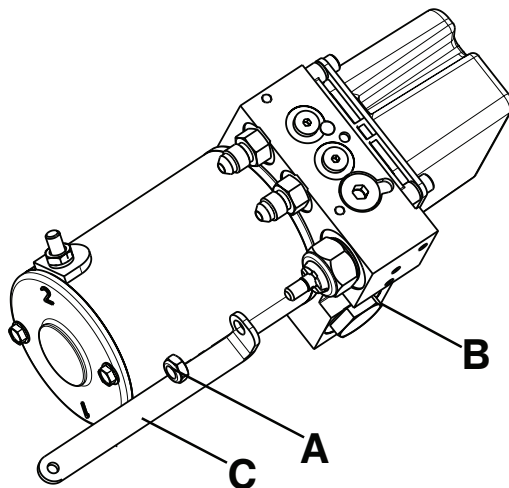

Figure 36 – Non-locking manual valve
5. Using a 7/16" deep well socket and 3/8" drive ratchet, remove the Nylock hex nut (A) that secures the non-locking manual valve (B) to the manual release link (C) (Figure 36). Save the nut.